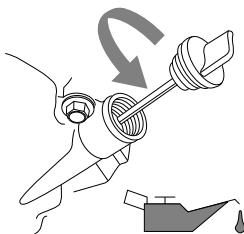

Figure 4-1. Engine Oil Fill
3. See *Figure 4-1*. Remove oil fill cap and wipe dipstick clean.